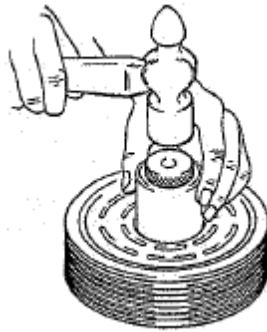

Figure 12-07
- (1) Place compressor on support stand, supported at rear end of compressor. If the compressor must be clamped in a vice, clamp only on the mounting ears, never on the body of the compressor.
- (2) Set rotor squarely over the front housing boss.
- (3) Place the rotor installer ring into the bearing bore. Ensure that the edge rests only on the inner race of the bearing, not on the seal, pulley, or outer race of the bearing.
- (4) Place the driver into the ring and drive the rotor down onto the front housing with a hammer or arbor press. Drive the rotor against the front housing step. A distinct change of sound can be heard when using a hammer to install the rotor. (Ref. figure 12-07).